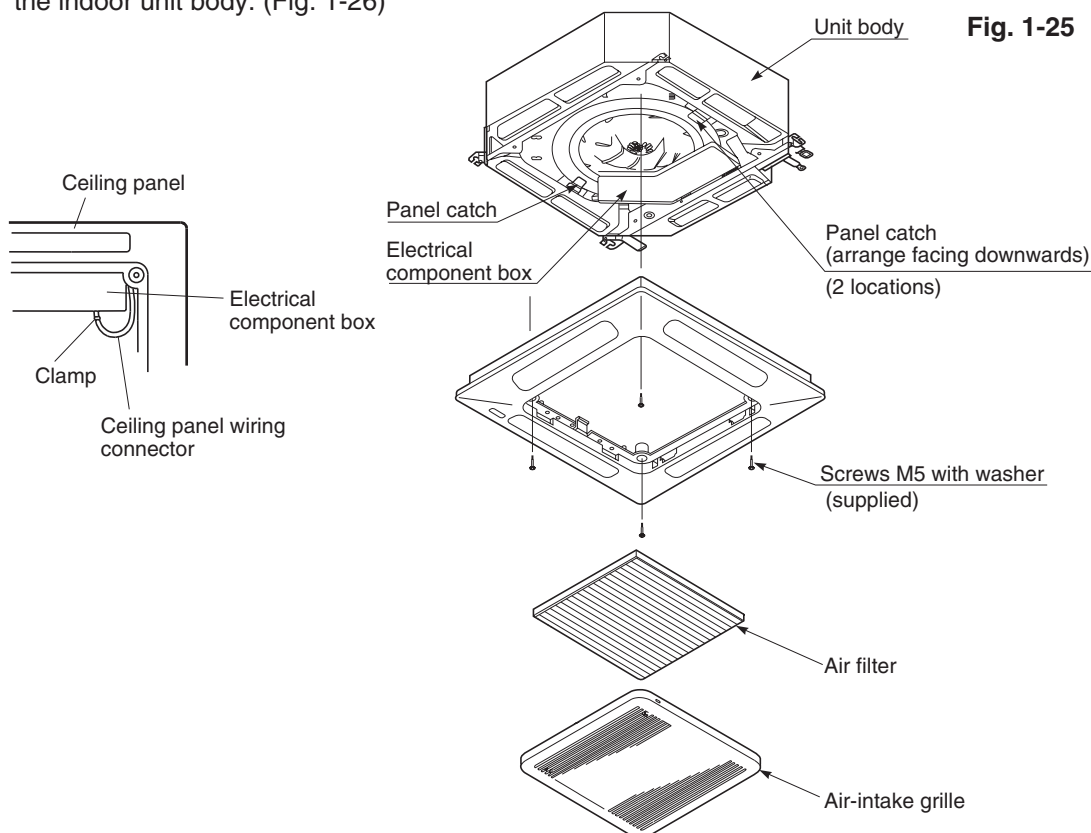

Fig. 1-26
- (2) Pull down the two panel catches on the body of the indoor unit body. (Fig. 1-26)